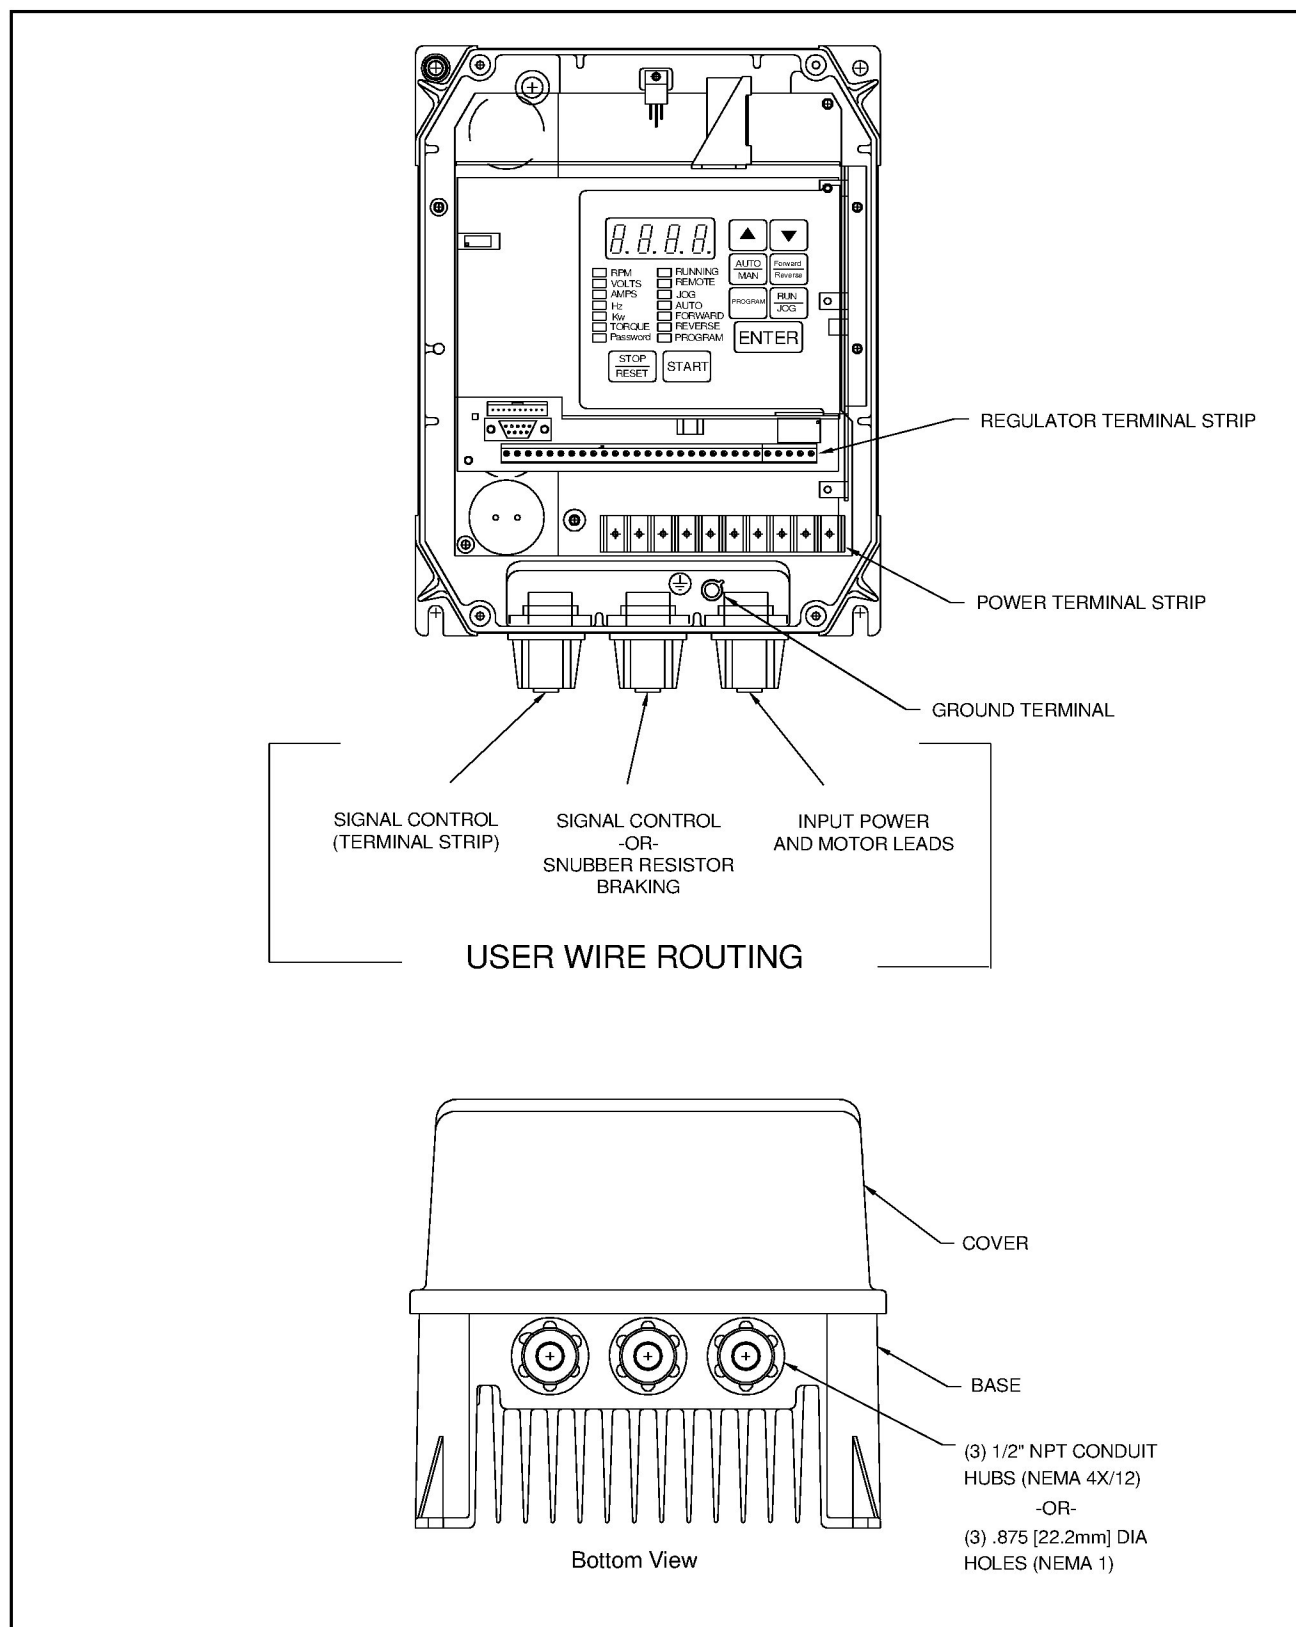

Figure 4.1 – Wire Routing Locations for 1-5 HP Drives
All wiring should be installed in conformance with the applicable local, national, and international codes (e.g., NEC/CEC). Signal wiring, control wiring, and power wiring must be routed in separate conduits to prevent interference with drive operation. Note that no wires are to be routed behind the drive. Use grommets, when hubs are not provided, to guard against wire chafing. Figures 4.1 through 4.7 show the wire routing, grounding terminal, and power terminal strips of the GV3000/SE drives.
- Step 2. Run a suitable equipment grounding conductor unbroken from the drive's ground terminal to the motor's ground terminal and then to earth ground. See figures 4.1 to 4.7, 5.1, and 5.2.
Step 1. Wire the AC input power leads by routing them according to drive type. Refer to figures 4.1 through 4.7. Tables 3.3 through 3.8 contain the recommended power wiring sizes.
- Step 1. Wire the DC input power leads by routing them according to drive type. Refer to figures 4.1 through 4.7. Tables 3.3 through 3.8 contain the recommended power wiring sizes.
- Step 1. Wire the three-phase AC output power motor leads by routing them according to drive type. Refer to figures 4.1 to 4.7. Tables 3.3 to 3.8 contain the recommended power wiring sizes.